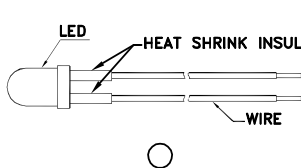

Fig. 2
2. When soldering wire to the LED, use individual heat-shrink tubing to insulate the exposed leads to prevent accidental contact short-circuit. (Fig.2)